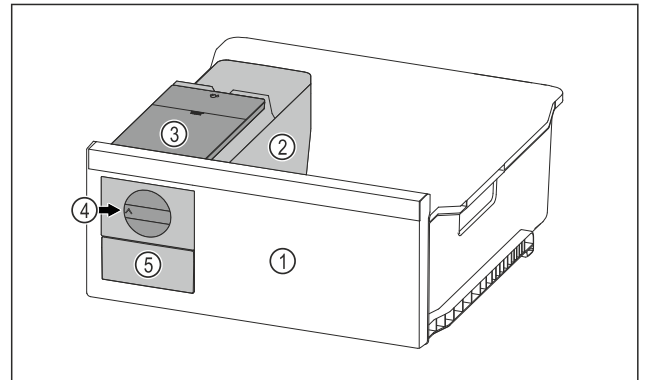

Fig. 61 Example illustration
- ▶ Turn the rotary knob Fig. 61 (4) clockwise as far as it will go.
- ▷ Ice cubes fall from the ice cube tray into the ice cube drawer Fig. 61 (5).